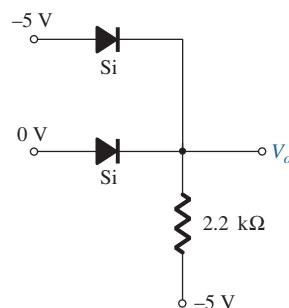

FIG. 165
19. Determine V_o for the negative logic AND gate of Fig. 165.